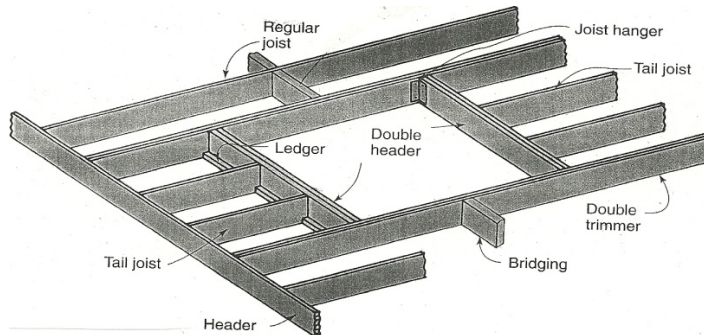

Figure VIII.2 Additional Floor Framing Members
**Subfloor:** The joists and header are covered with subflooring. A sheet material such as plywood is normally used and the subfloor is nailed to the joists. The finished floor will cover the subfloor. Figure VIII.2 shows additional floor framing members.